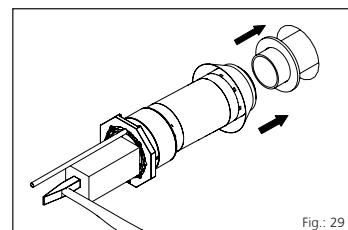
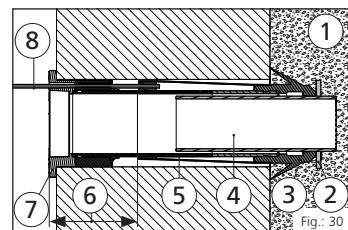

Fig.: 29
Fig.: 30
First introduce the pebble disc and then the MIS100ND VT63 from the inside of the building into the opening (if necessary strike with a hammer and a piece of wood) until the shield is **outside** the wall (see Fig. 29 and Fig. 30).
**MIS100ND VT63 with pebbles in front of the outside wall (see Fig. 30).**
Legend for Fig.: 30